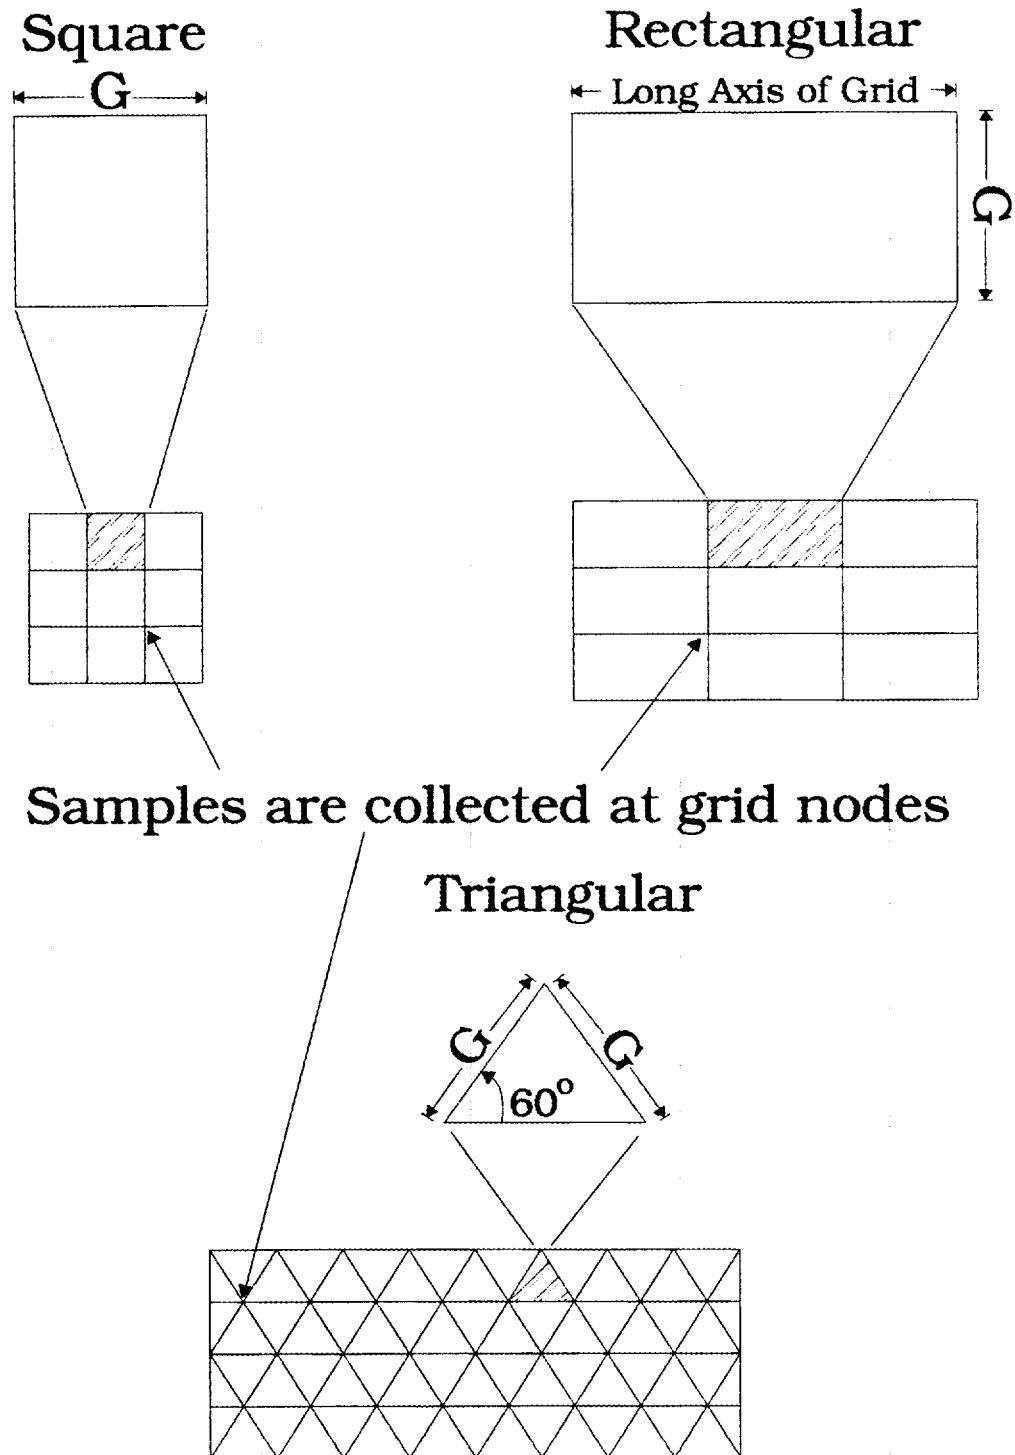

Fig. 2. Grid configuration for finding hot spots.
2. Samples or measurements are taken on a square, rectangular, or triangular grid. Figure 2 illustrates the various grid configurations.